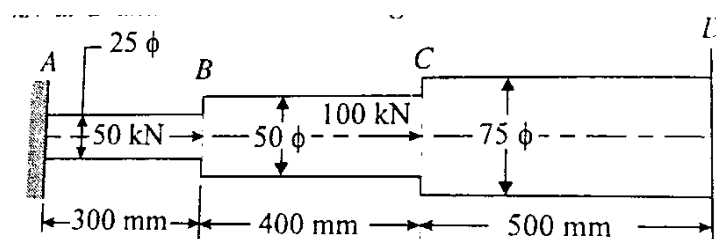

Figure: 1.2
4. A circular steel bar ABCD, fixed at A and D is subjected to axial loads of 50kN and 100kN at B and C as shown in fig.1.2 Find the load shared by each part of the bar and displacement of point B and C. Take  $E$  for steel 200GPa.